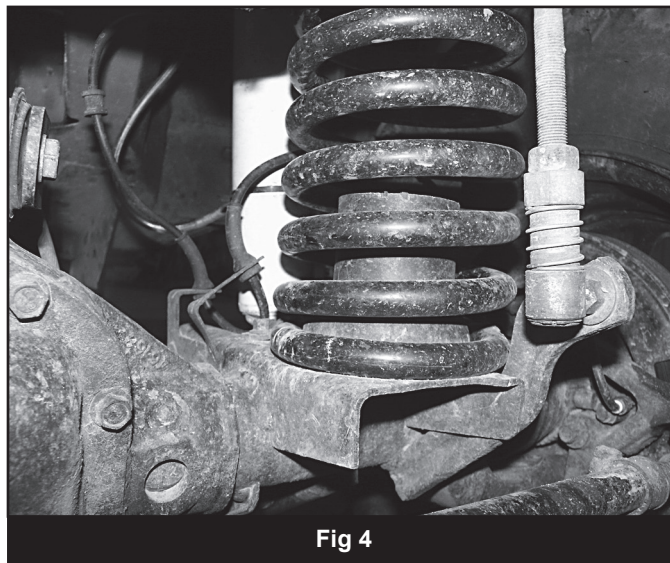

Fig 4
21. Attach bump stop extension (3" wide x 3" high block) with 3/8 x 3-1/2" bolt (BP 438). Torque to 30 ft-lbs. (Fig 4)